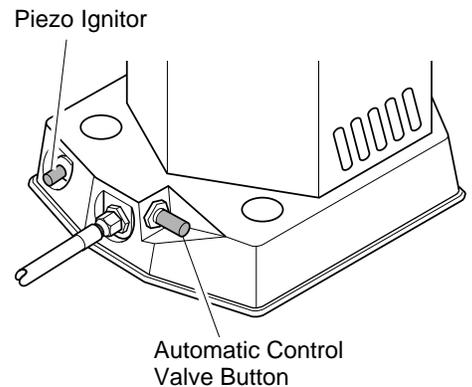

Figure 4 - Automatic Control Valve Button and Piezo Ignitor Button Locations
6. Push in and hold automatic control valve button (see Figure 4). Push and release piezo ignitor button (see Figure 4). Keep pushing piezo ignitor button until the burner lights. Hold control knob in for a maximum of 10 seconds while trying to light heater. If heater does not light, release control knob and wait 30 seconds. Repeat step 6 to start heater. **Note:** Keep hands and face away from heater outlet (around top of shell) while lighting heater. When burner lights, keep automatic control valve button pushed in. Release button after 30 seconds. This activates the automatic control system.